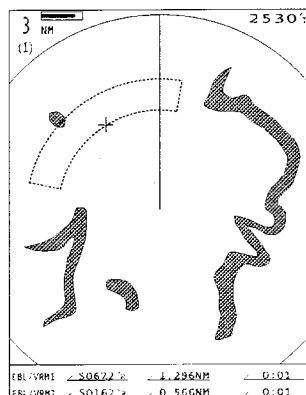

Fig. 1
- ① Push [+]/[-] to select the desired range.
- ② Push [^]/[v]/[<]/[>] to set the cursor to the starting point of the alarm zone.
- ③ Push and hold [ALM] for 0.5 sec. to enter the alarm zone setting.
- The starting zone appears on the screen. (Fig. 1)
- ④ Push [<]/[>] to adjust an angle and push [^]/[v] to set the distance of the alarm zone.
- ⑤ Push [ALM] to fix the alarm zone and activate the alarm function.
- ⑥ If a target comes into or goes out of the alarm zone, an alarm beep is emitted.
- ⑦ To deactivate the alarm function, push [ALM].
- ⑧ To activate the alarm function again with the same programmed zone, push [ALM].